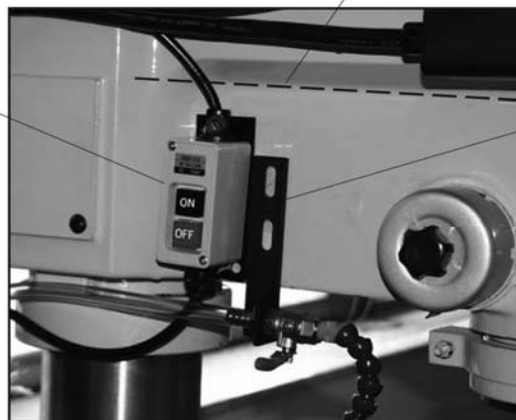

Figure 9: Installation Detail
- Note:** Mount components near the lower edge of the spindle casting. Do not mount components above the line shown in Figure 9.